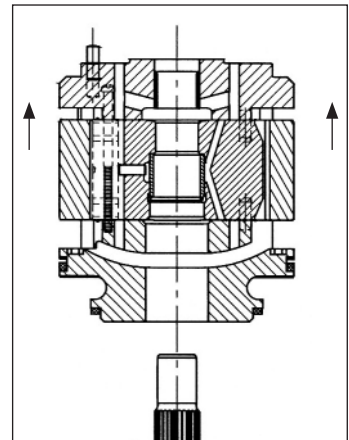

Figure 44
5. Remove cartridge from shaft (**Fig. 44**).